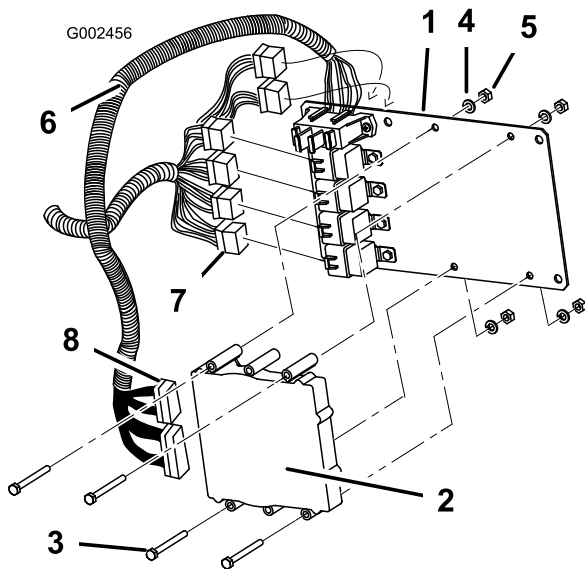

Figure 8
5. Secure the ECU to the mounting plate (Figure 8), using 4 bolts (1/4 x 2-1/2 inch), 4 lock washers (1/4 inch), and 4 nuts (1/4 inch).
6. Connect the relay leads on the wiring harness to the 6 relays on the mounting plate (Figure 8).
7. Connect the 2 controller leads (one long and one short) on the wiring harness to the ECU (Figure 8).